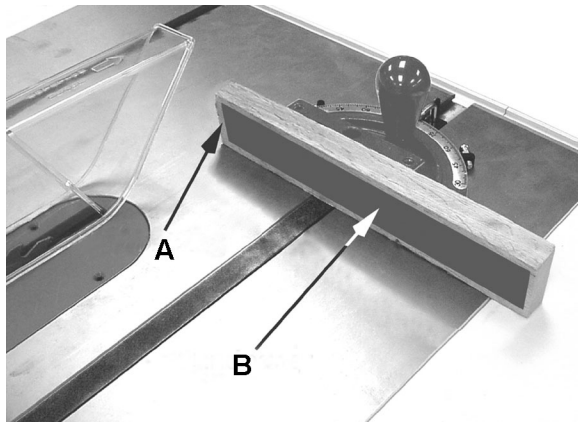

Figure 9-10
To improve the effectiveness of the miter gauge in crosscutting, some users mount an auxiliary wooden extension face (A, Figure 9-10) with a glued-on strip of sandpaper (B) to the miter gauge.